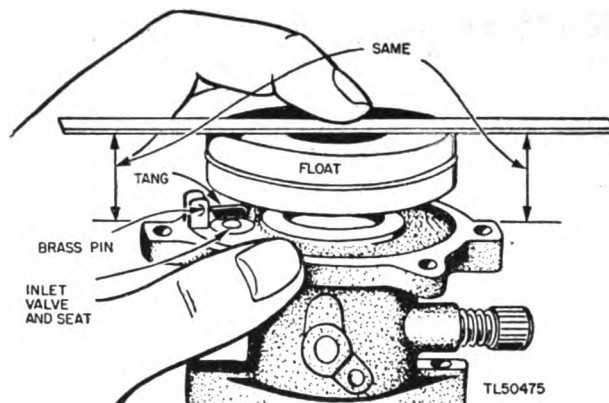

Figure 49. Carburetor float position.
(4) *Checking inlet valve and seat* (fig. 49). Pull out the brass pin which holds the carburetor float. Remove the float and inspect the inlet valve and seat. A worn or dirty inlet valve and seat or an incorrectly adjusted float lever will cause the carburetor to leak.
(6) *Reassembling* (fig. 49). (a) The float should be in a horizontal position when it closes the inlet valve.